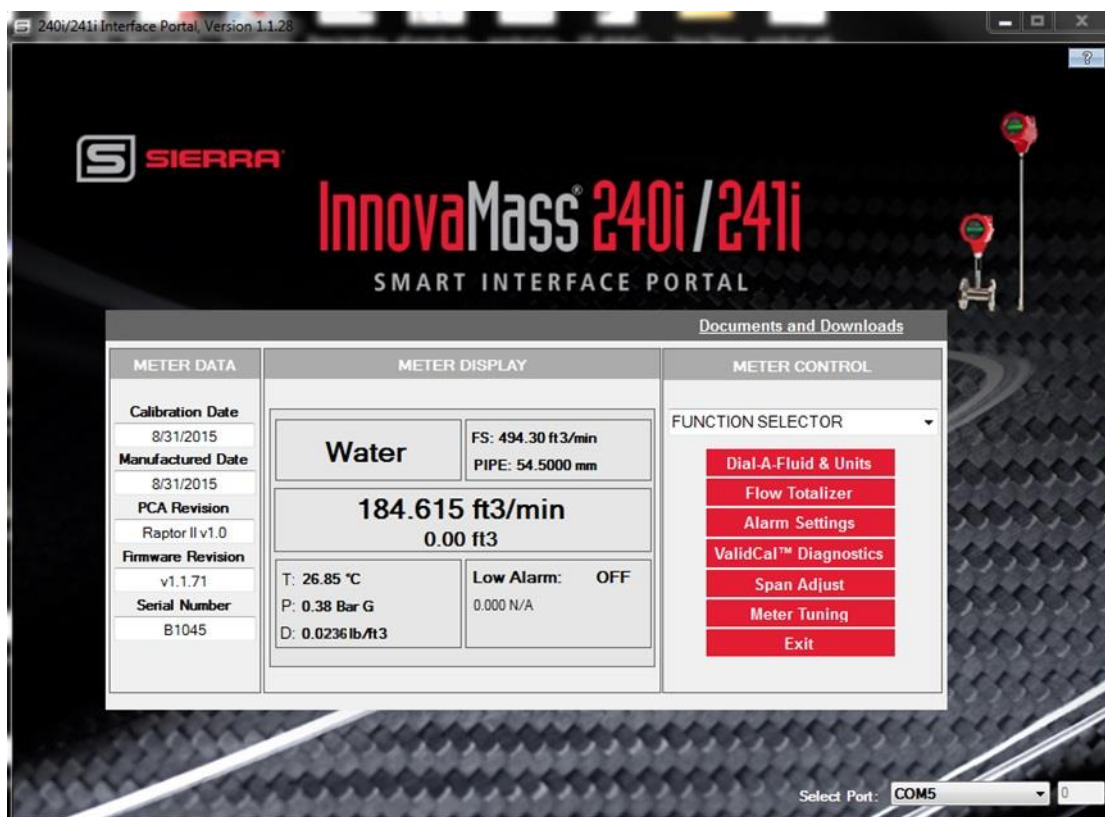

Figure 1. InnovaMass Smart Interface Portal Home Screen
- 5) For security, upon initial startup, the meter will require a password. The factory default is 0000. This can be reset in the “Meter Information” section on the function selector drop down menu (See Figure 1).